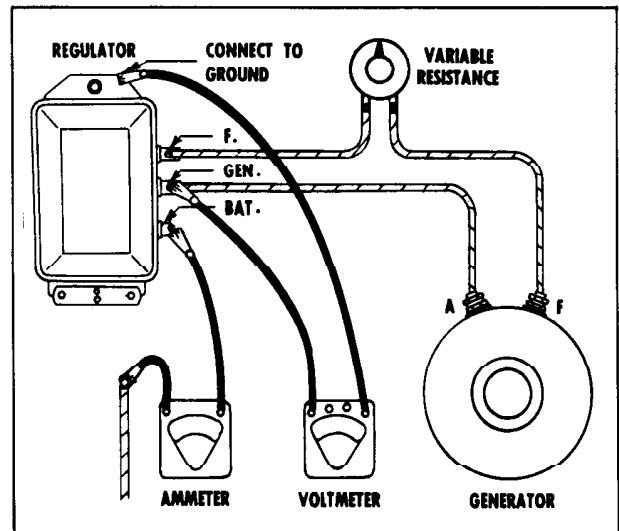

Fig. 13-21 Checking Cutout Relay Closing Voltage
1. Connect a voltmeter between the regulator "GEN" terminal and ground. (Fig. 13-21)